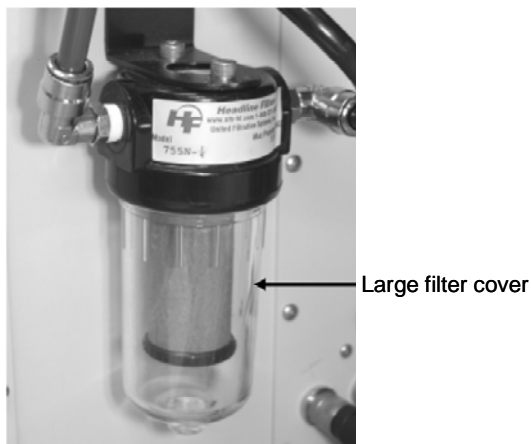

Figure 10-4. The bypass flow in-line filter should be changed every six months. This coalescing filter also serves as the water trap on the 1405-DF.
6. Unscrew and remove the large filter cover from the bypass flow channel on the back of the unit (**Figure 10-4**).